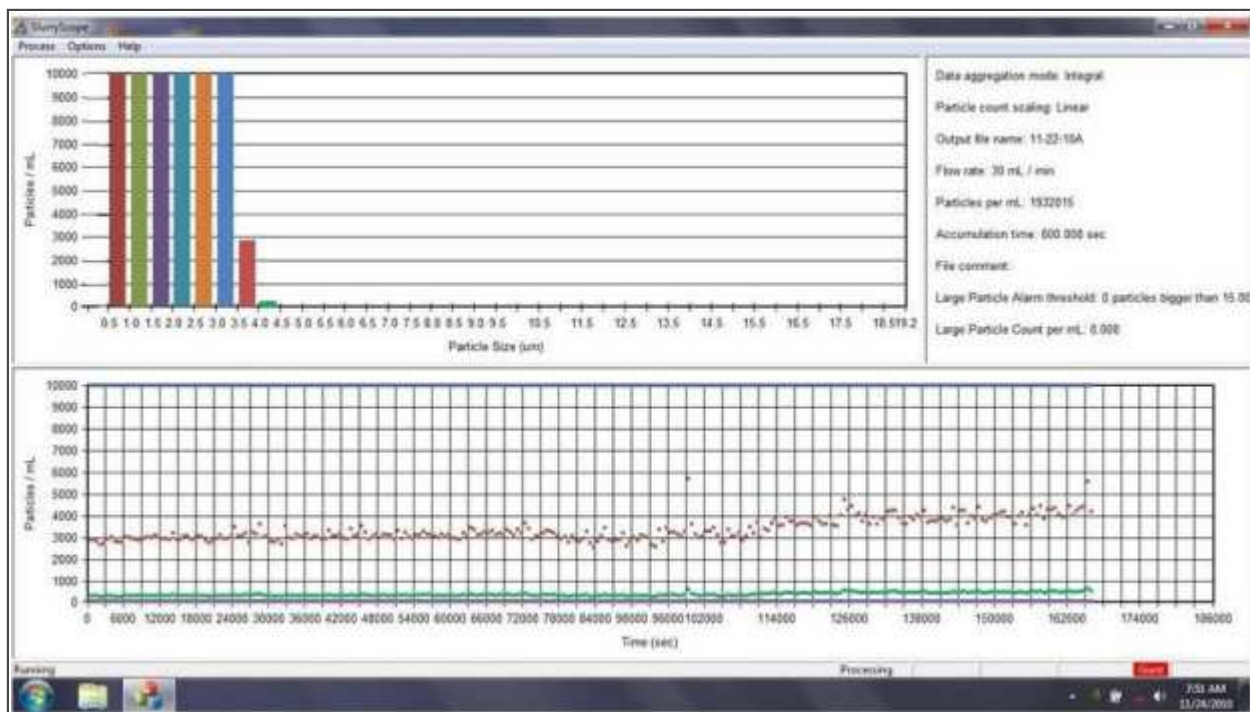

Figure 2. LPC cutoff ceria monitor >40hrs (SlurryScope data of undiluted measurements of slurry LPC). SOURCE: Vantage Technology
IC manufacturers need CMP slurry to perform consistently during the wafer polishing process, and to that end, they are pushing for improved slurry metrics. Only recently, new particle measurement units been developed that can monitor particles of undiluted slurry. In the past year, metrology system providers have developed new techniques that enable undiluted testing of slurries for both the LPC (i.e., >1.0µm) and the mean particle size of the slurry abrasives. Mean-sized particles -- usually well below 100nm -- are the slurry's primary abrasives, with a tight distribution to control removal rates (RR). The LPC is associated with defects and scratching, because it is not considered to be part of the intended slurry composition, but can impact wafer polishing. Figures 2 & 3 show slurry particles in the LPC range measured down to a cutoff point with undiluted testing.
Figure 2 shows a graph of undiluted ceria slurry with the cutoff point where the slurry LPC reaches zero. The bars in the upper graph show particle size bins from 1.0 $\mu$ m and above, with the last two bins of 3.5-4.0 $\mu$ m (brown) and 4.0-4.5 $\mu$ m (green). The bottom graph is a time-line display (with the beginning of the test -- time 0 at far right) of those two size bins over the >40 hour period of monitoring. The improvement or reduction in both size bins was the result of a new filter installation in slurry delivery line (note the drop in counts for both colors).